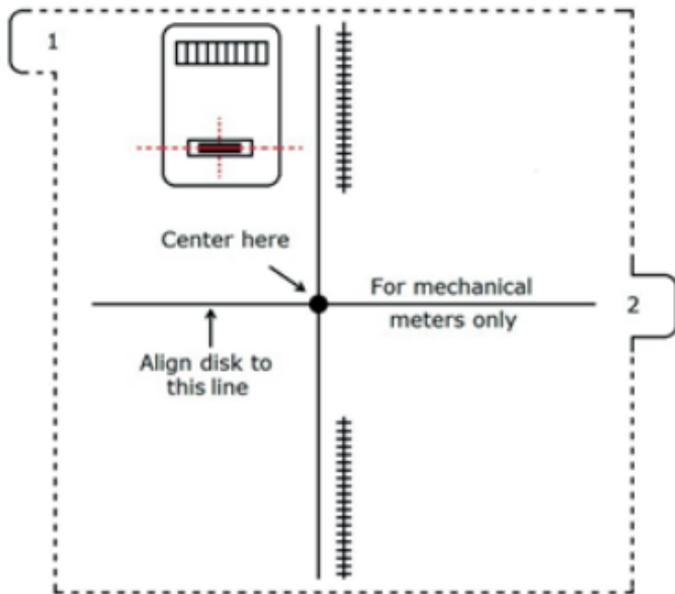

Fig.4
- a. Start by removing the template from the white background, by gently pulling slip 1 (Fig.4) on the